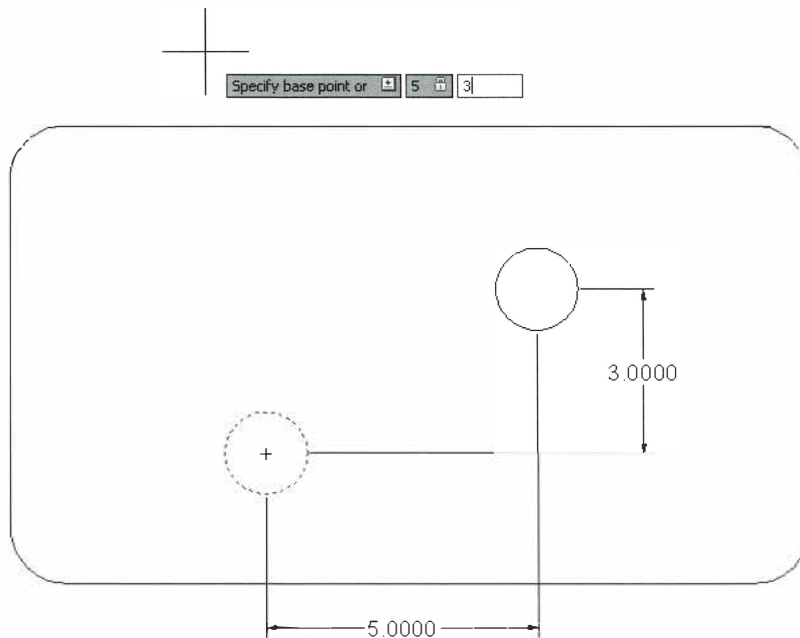

Figure 2-6
- Relative coordinates can be useful in commands (such as **Move** and **Copy**), and in drawing commands. For example, you can use relative coordinates to copy an object at precise X- and Y- distances from the original. To copy the circle on the lower left (as shown in Figure 2-6), use the coordinates **5,3** as the second point.